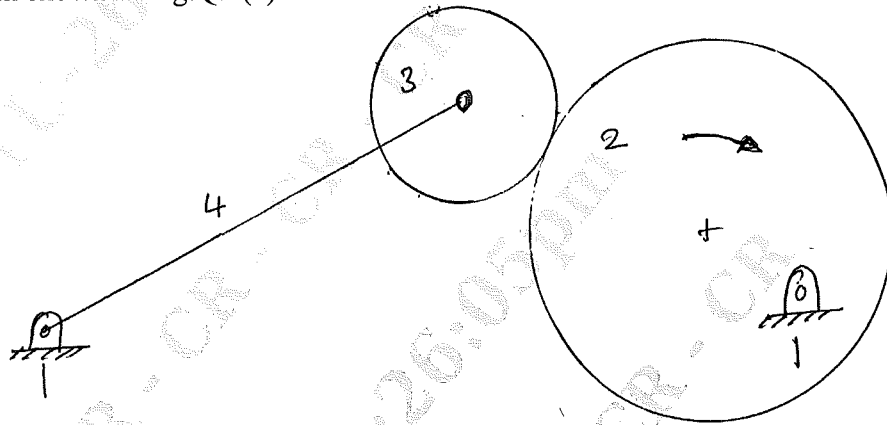

Fig.Q.1(b)
- b. What is redundant degree of freedom of a mechanism? Find the degrees of freedom of the mechanism shown in Fig.Q.1(b). (04 Marks)